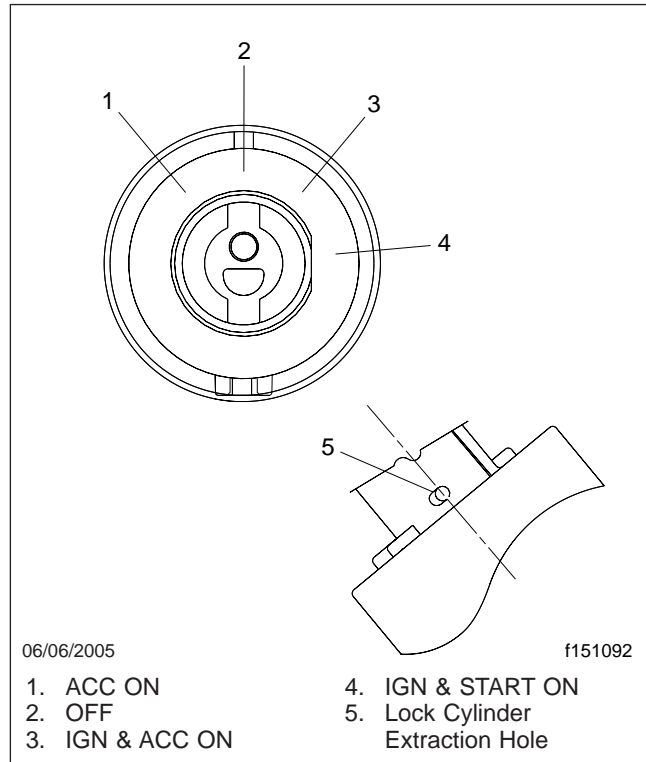

Fig. 3, Key Positions and Lock Cylinder Replacement
- 6.1 Insert the key and turn it to the "ACC" position. See Fig. 3.